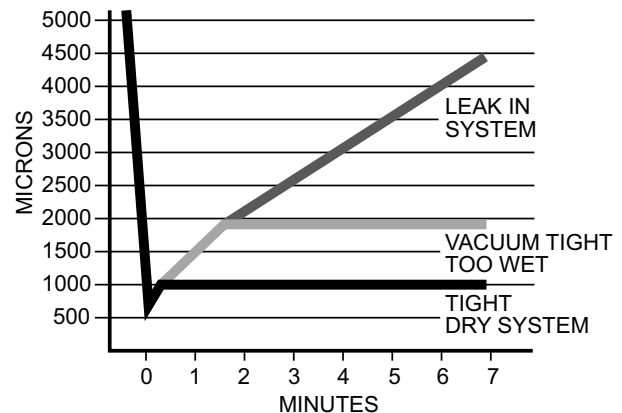

Fig. 10 – Deep Vacuum Graph
10. Perform a leak check on the unit. Vacuum unit to 500 microns. When isolating the unit from the pump, the pressure shall not rise above 1000 microns in 7 minutes (Fig. 10).